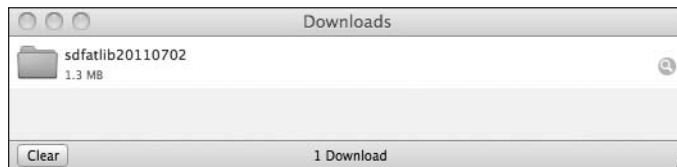

Figure 8-16: Library file in the Downloads folder
1. Open the *Downloads* folder on your Mac and find the downloaded *.zip* file, as shown in Figure 8-16.